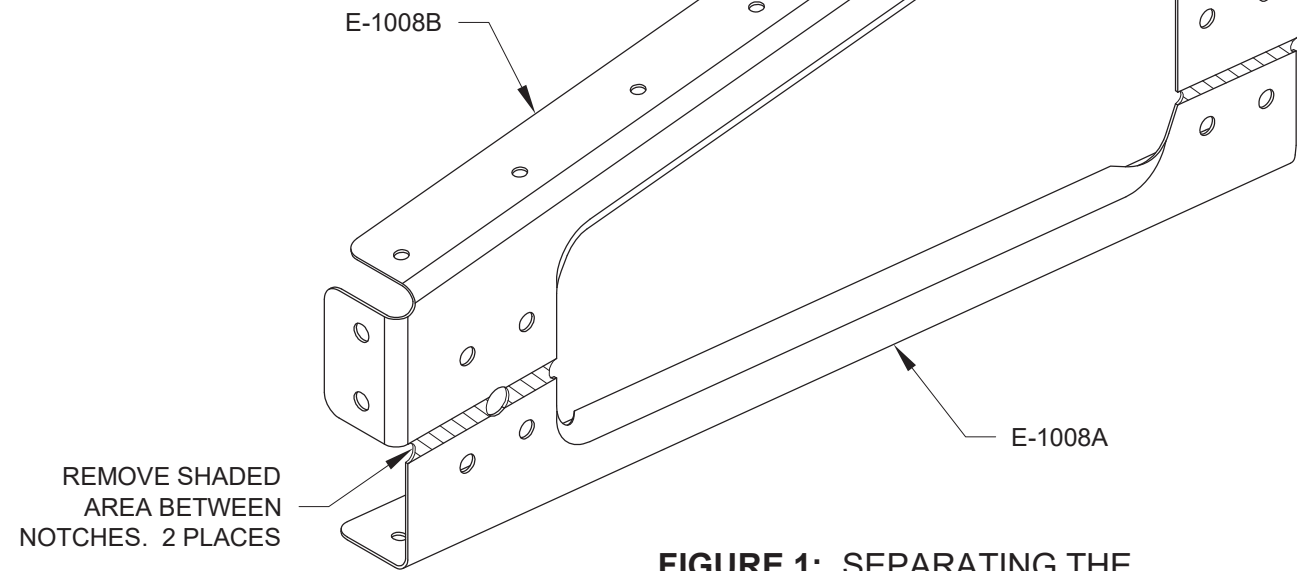

FIGURE 1: SEPARATING THE ELEVATOR RIBS
Step 1: Separate the sixteen E-1008 Elevator Ribs into individual parts by removing the material shown in Figure 1. Deburr all edges.